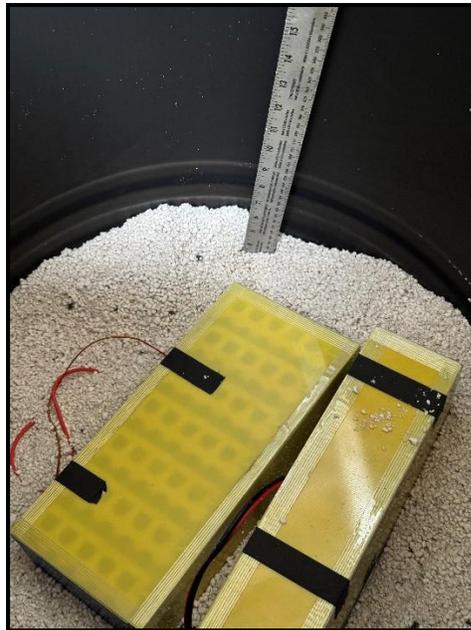

Figure 7
- The 30-gallon poly drum was pre-filled with approximately 3 inches of AkkuGrain at the base. Another bag of AkkuGrain was filled in before placing the first battery pack. Figure 7 illustrates the same.